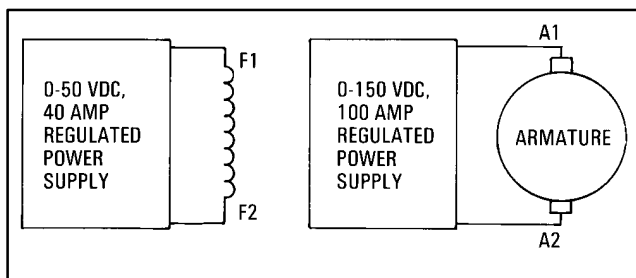

FIG. 8. CONNECTIONS TO RUN A SHUNT MACHINE FROM A D-C POWER SOURCE. E-23930A.
3. Connect the machine to an outside source of controlled d-c power, Fig. 8.